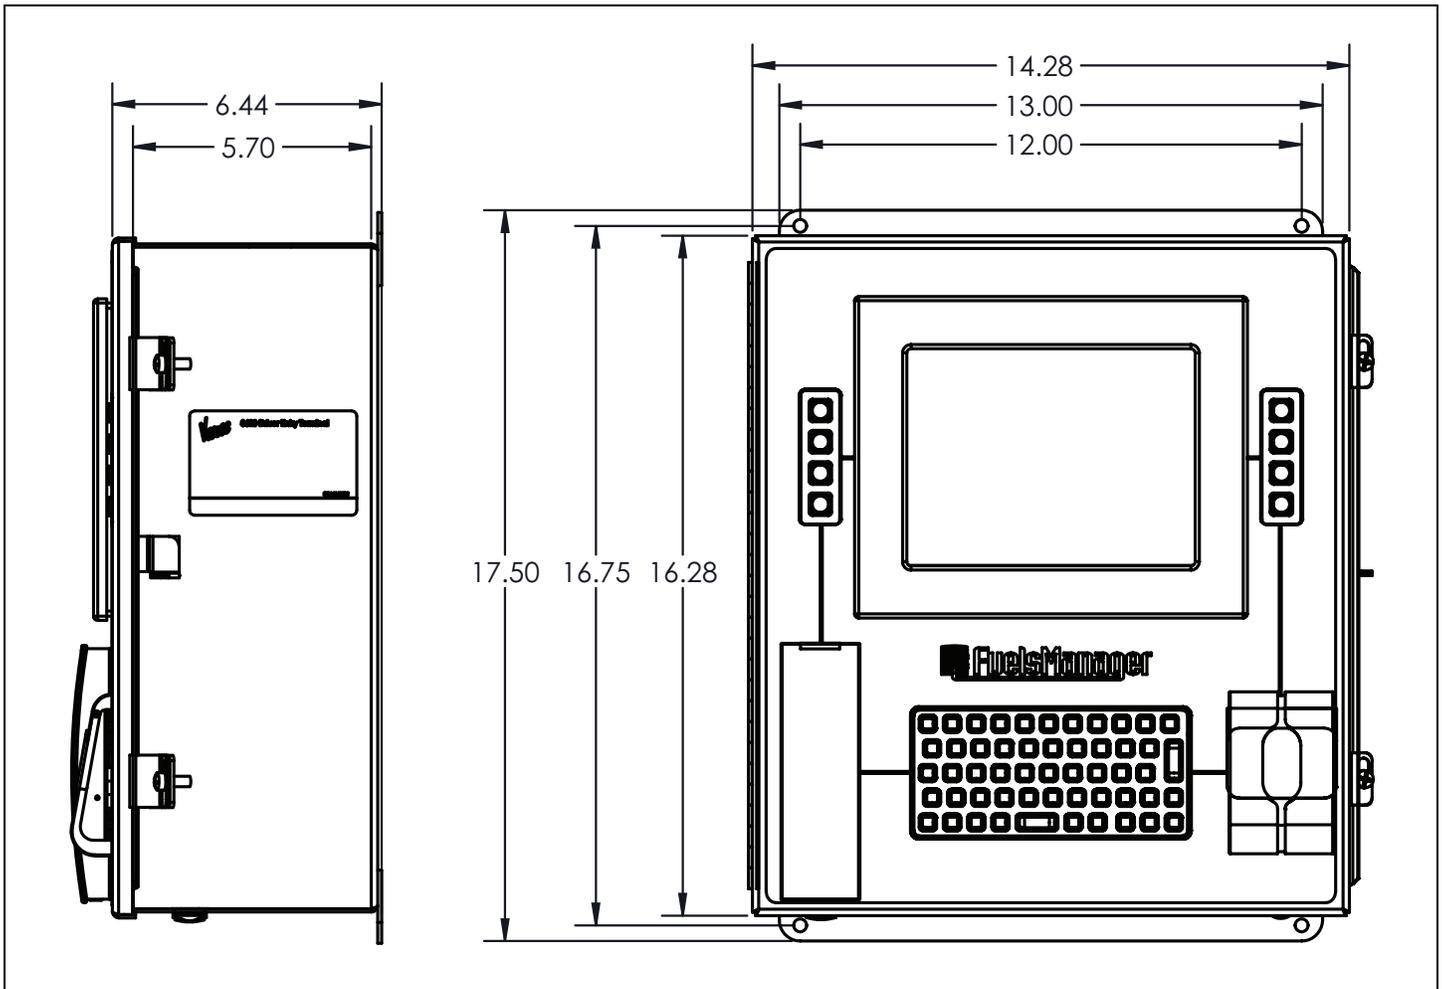

Figure 2-1: 8620 DET Dimensions
3. Ensure proper mounting of the 8630 DET. Refer to Figure 2-1 on page 7 for dimensions and mounting holes.
Figure 2-1 shows the dimensions of the 8620 DET.